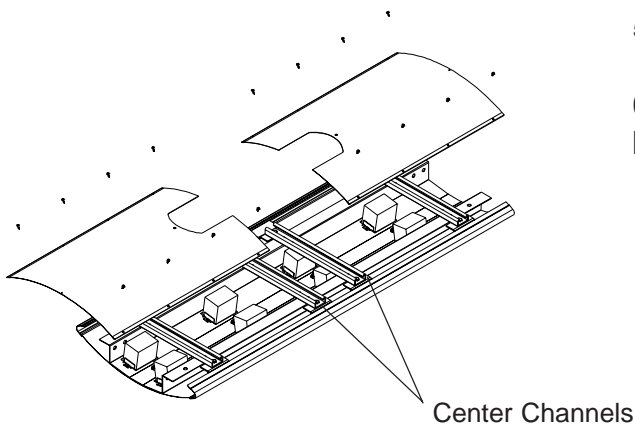

Fig. 4
6. Remove top panels from Carrier Assembly by removing screws and lifting (see Fig. 4).
7. Insert four (4) item #1 (3/8 Spring Nut, see Fig. 5) into center channels of Frame Assembly (see Fig. 4)
2. Remove Top Covers from Carrier Assembly (see Fig.4).